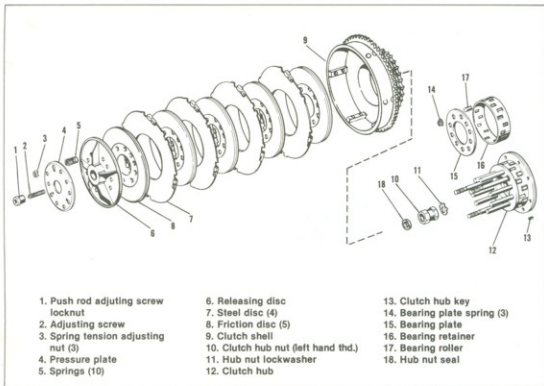

Figure 6-28. Clutch Assembly
3. See Figure 6-28. Remove the pressure plate (4), springs (5) and releasing disc (6) as an assembly. Do not disassemble these parts unless replacement is necessary.
4. Remove the steel discs (7) and lined friction discs (8).
6. See Figure 6-28. Pry back the ear on the lockwasher (11). Remove the clutch hub nut (10) using the CLUTCH HUB NUT WRENCH, Part No. HD-94645-41. Nut has a left-hand thread. Remove the lockwasher (11).
CLEANING, INSPECTION AND REPAIR (Figure 6-28)
ASSEMBLY (Figure 6-28)